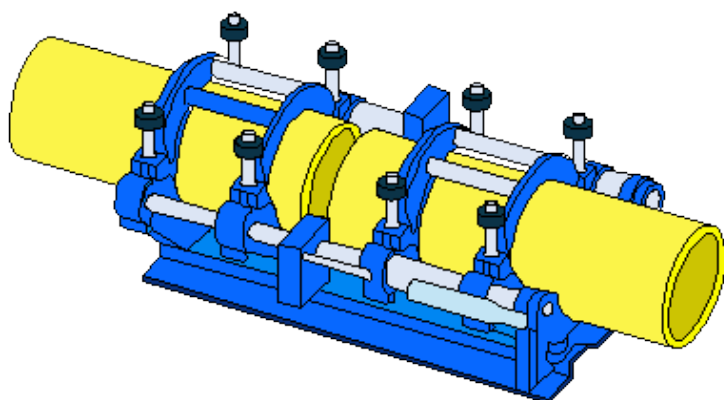

Figure E3 – Butt Fusion Check Cycle
27. When the machine has pulled the pipe apart remove the trimmer and avoiding contact with the trimmed ends remove the swarf from around and inside the pipe avoiding contact with the trimmed ends, see Figure E3.